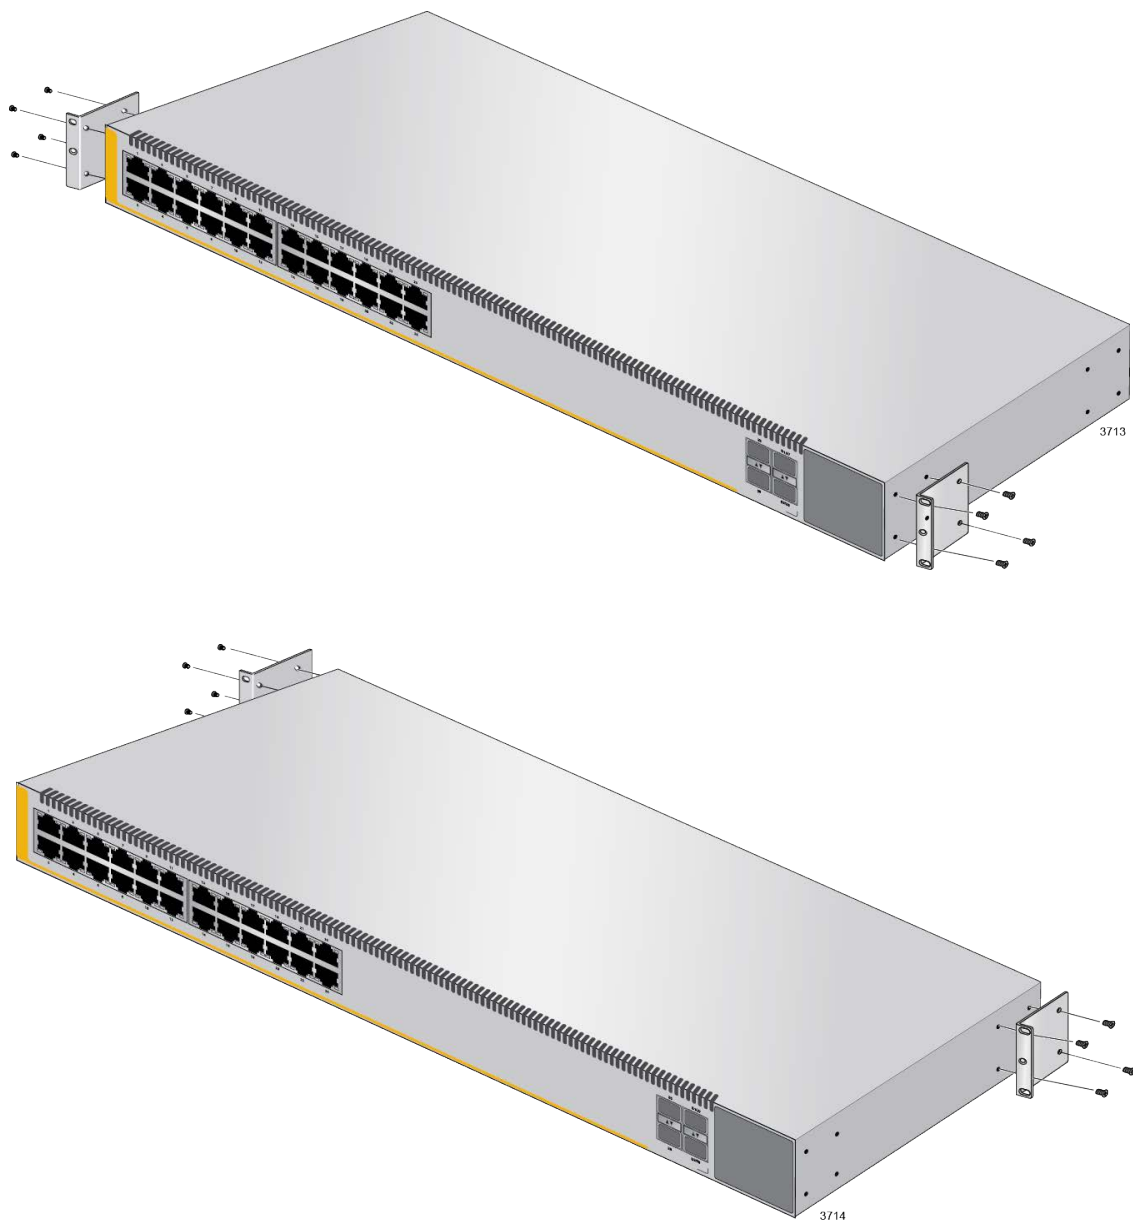
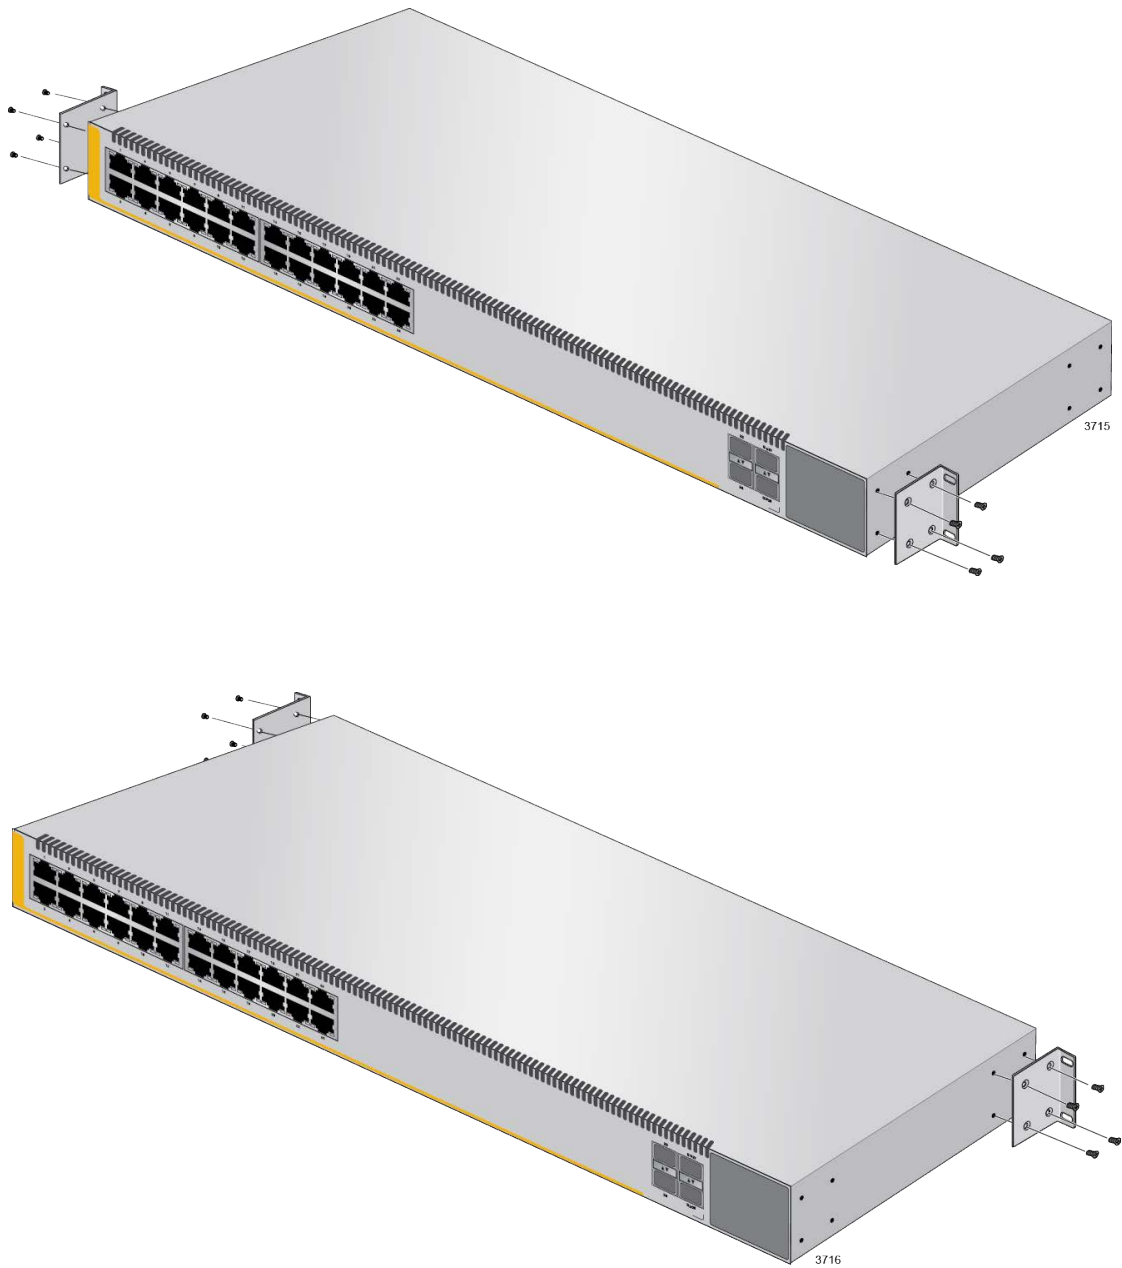

Figure 40. Attaching the Equipment Rack Brackets
Figure 41. Attaching the Equipment Rack Brackets (Continued)
2. Attach two of the rack mount brackets to the sides of the switch using eight of the bracket screws included with the unit. Figure 40 on page 92 and Figure 41 on page 93 illustrate the four possible bracket positions.